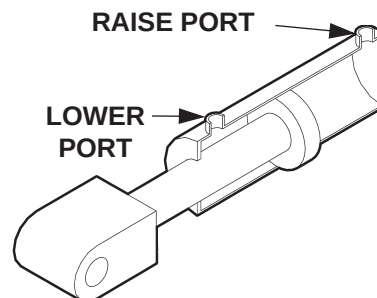

FIG. 41-3
3. Check the Hydraulic Cylinder. With the Platform on the ground, remove the hydraulic line from the Lower Port of the Cylinder (FIG. 41-3). Raise the Platform even with the bed. Allow pump motor to run two seconds more while you watch for hydraulic fluid at the Lower Port. A few drops of hydraulic fluid escaping the port is normal; however, if it streams out, Piston Seals are worn. Replace Seals.